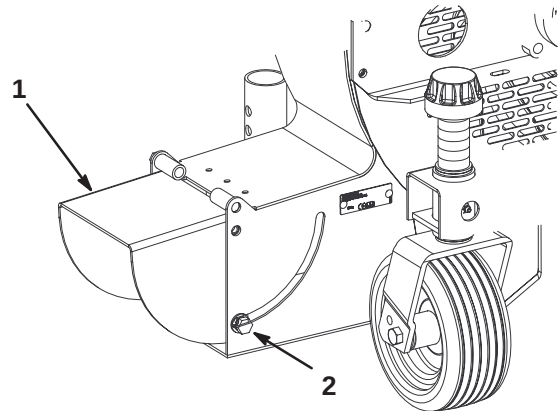

Figure 7
- Loosen the discharge opening deflector mounting screws (Fig. 7).